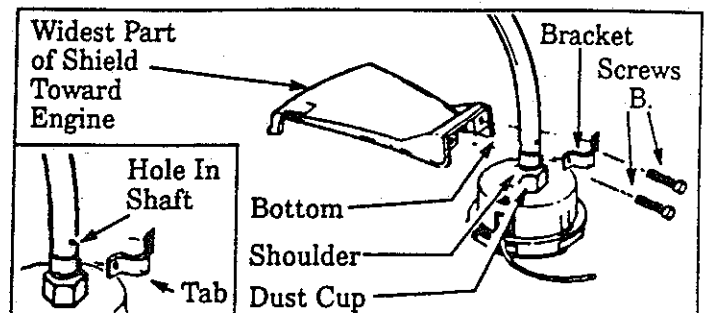

Figure 5
Do not alter or remove the Bracket Tab. When installed correctly, the Bracket Tab ensures proper shield orientation. Failure to install the shield in the position shown in Figure 5 can result in serious injury to the operator. The length of the shield must be aligned with the length of the drive shaft housing. Direct the widest part of shield toward engine. Figure 5.
- Match the Tab on the Bracket with the hole on the Drive Shaft Housing. Figure 5.
- Attach the Shield to the Bracket with the two Screws "B." as Shown in Figure 5.